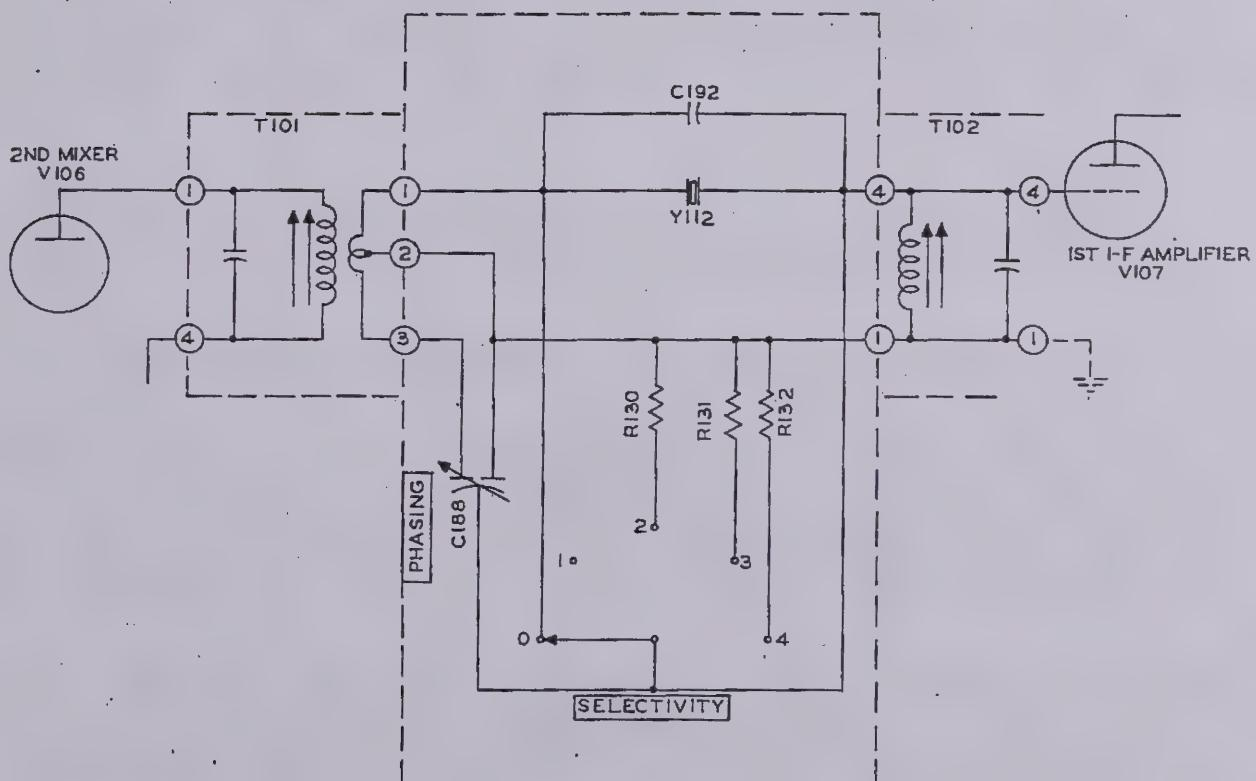

Figure 4-4. 51J-3 Crystal Filter
4.2.7. CRYSTAL FILTER. - Selectivity of the 51J-3 receiver is improved greatly by use of a crystal filter in the 500- kc i-f channel. The crystal filter circuit consists primarily of 500- kc i-f input transformer T101, a 500- kc crystal, and a high impedance tuned circuit T102, connected as shown in figure 4-4. When SELECTIVITY switch S114 is in position 0 the crystal is shorted and T101 is connected directly to T102. Thus there is no crystal filter action when S114 is in position 0; selectivity is determined by the receiver's tuned circuits alone. When S114 is in any other position, crystal filter action takes place--position 4 giving the greatest selectivity.